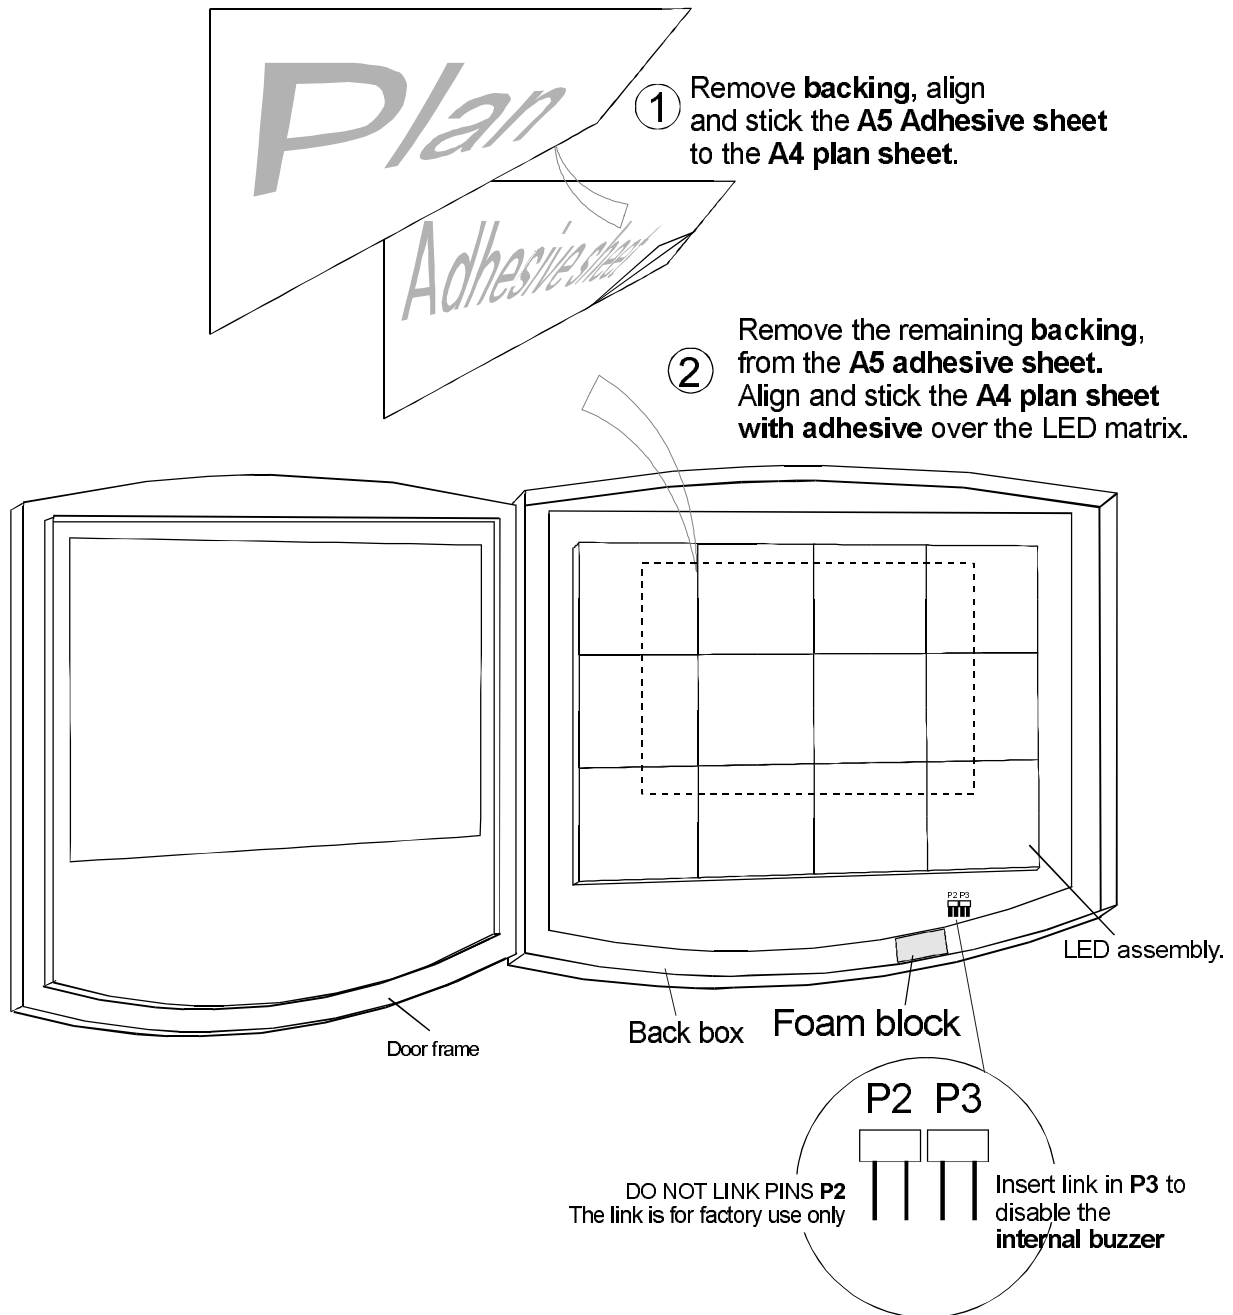

Figure 3-3 A4 Mimic plan and buzzer configuration
- c) Remove the backing from one side of an **A5 adhesive sheet**. Apply to the reverse side of the printed **A4 site plan or zonal plan sheet**, so that when attached to the LED blocks it will be in the position shown by the dotted line, see Figure 3-3. Press the adhesive sheet down firmly.